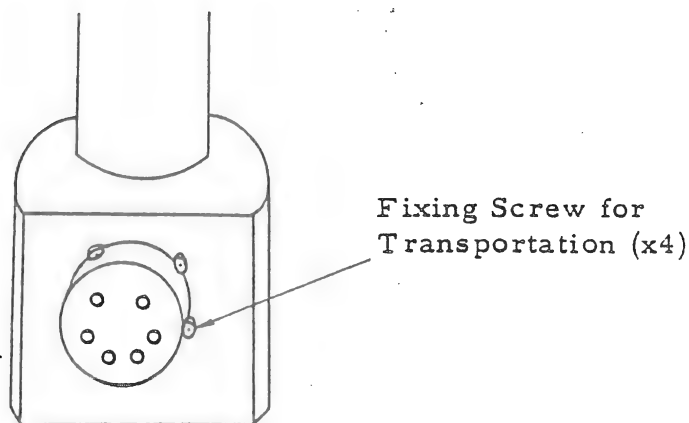

Fig. 3-11 Fixing Screws for Transportation
- (c) Detach the four fixing screws for transportation from the specimen goniometer stage. See Fig. 3-11.